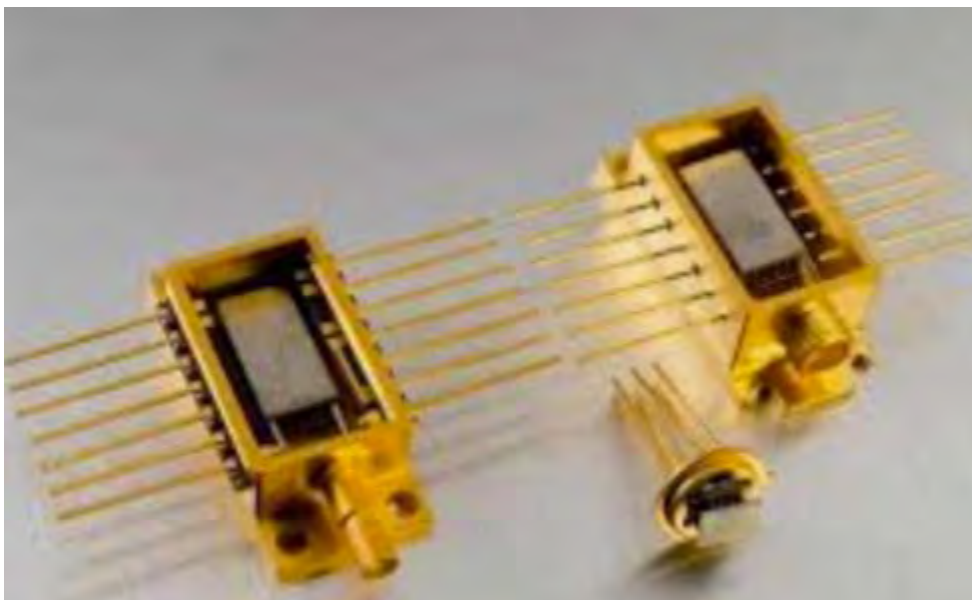

Figure 3. Typical TEC form factors. (AMS Technologies)
**PCB packages for thermoelectric devices.** The more power you can feed to the TEC device, the more cooling it can do. At the PCB mounted level, there are a few popular packages. The TO-8 can and a so-called butterfly package are most familiar (**FIGURE 3**). We had the larger type between a laser and a photodetector for an optical transponder. A lot of data was fed from a single optical fiber that had to be converted to many lanes of copper. That was our socket. Enterprise gear on the leading edge as well as science projects can take advantage of this technology.